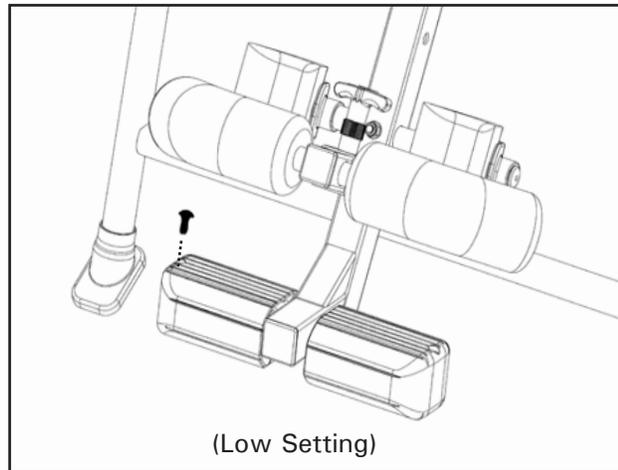

Figure 15
- Insert the screws (IA-1123) into the Foot Platform (Figure 15) and tighten with the provided screwdriver (F5-1130).